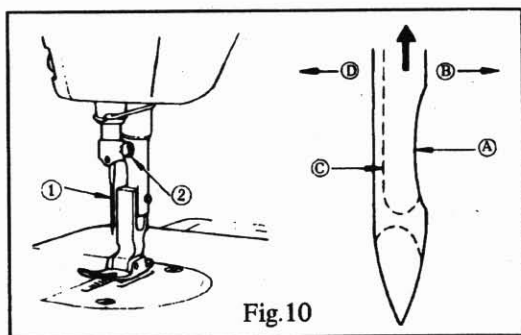

Fig.10
4. ATTACHING THE NEEDLE (Fig. 10)